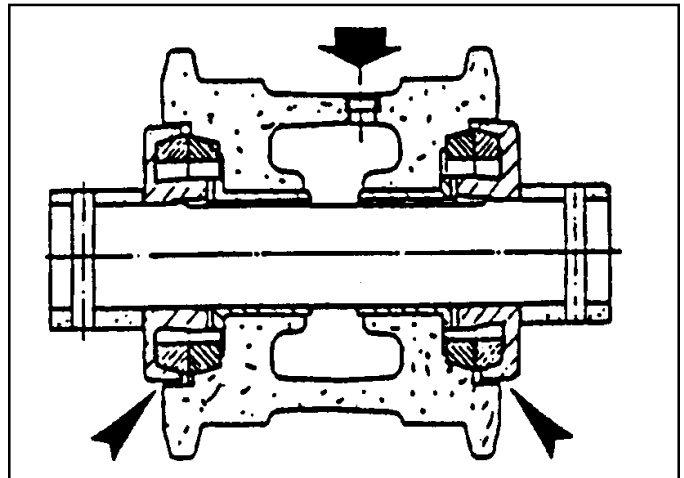

Fig. 2-50 Track Roller - pressure test.
7. Check the end play. Check for air tightness by inserting air pressure through the oil fill hole. Test pressure should be not more than 87 PSI (6 bar). Fig. 2-50.